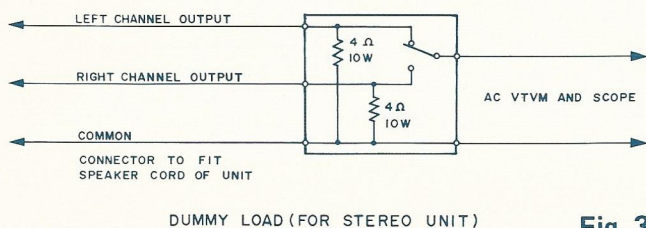

Fig. 3
2. Connect an AC voltmeter (VTVM) across speaker or dummy load (4 ohms, 10W, wire-wound resistor). See Fig. 3.